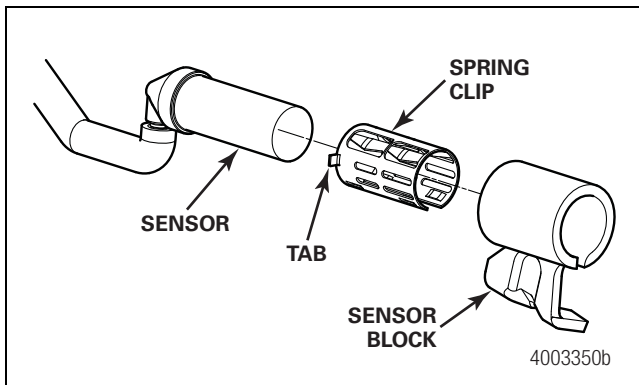

Figure 12.5
- **Sensor Spring Clip** — Retains the sensor in the sensor block. Figure 12.5.